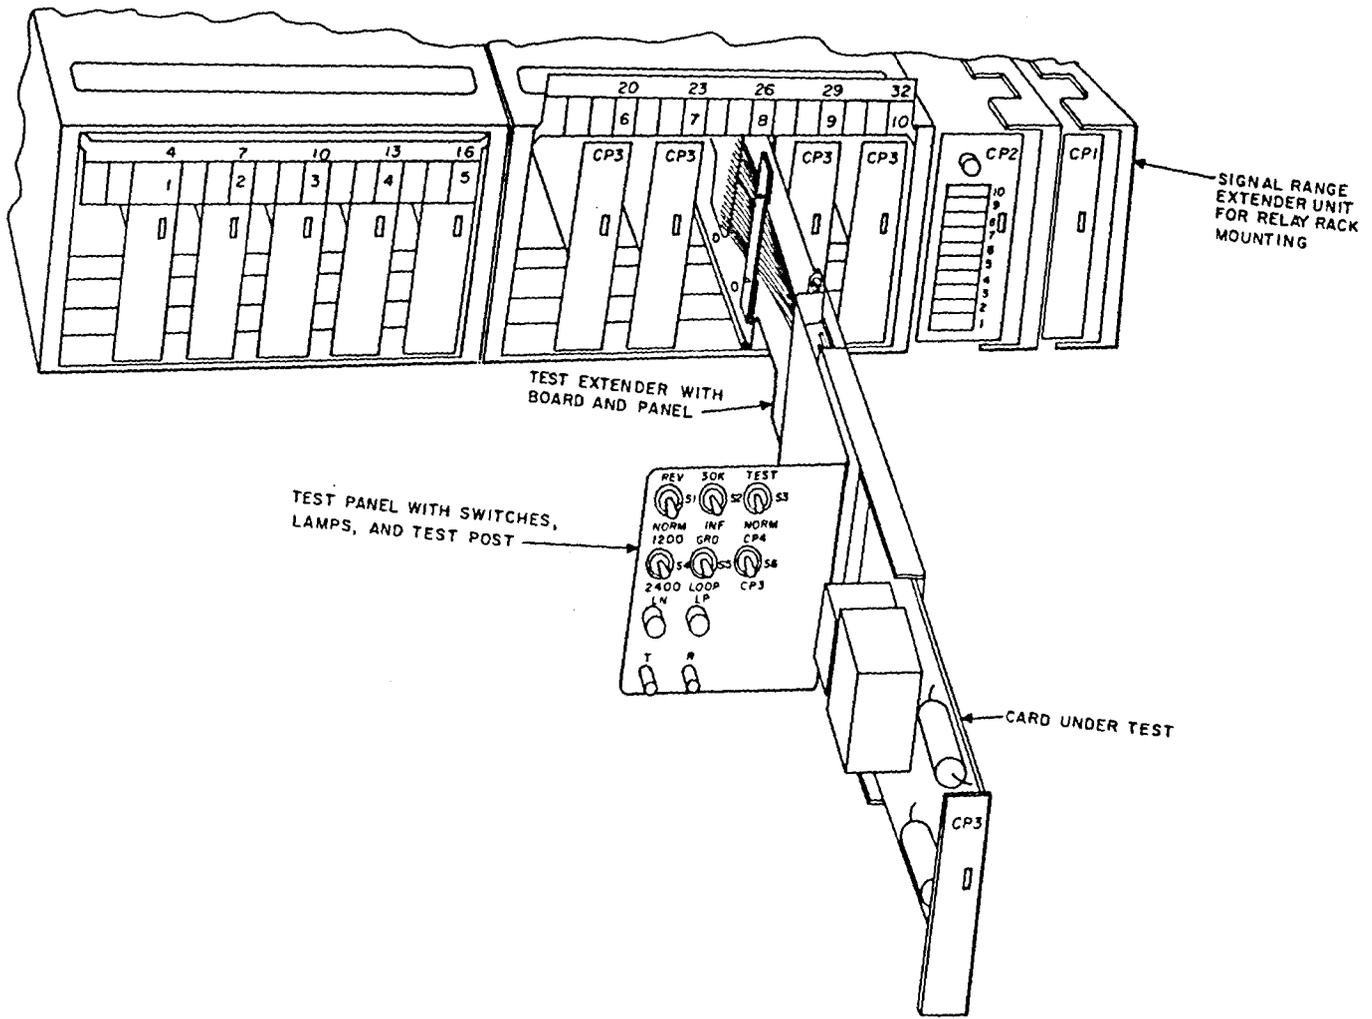

Fig. 1—Signaling Range Extender Test Unit —Test Setup
2.01 In preparation for operational tests, the line should be removed from service. The circuit pack under test must be removed from the shelf and replaced with the test unit. The circuit pack under test is inserted into the test unit (Fig. 1) and the 1014A handset is connected to the T and R posts on the test panel. All tests assume that circuit transmission requirements are met and that -48V is on the ring conductor.